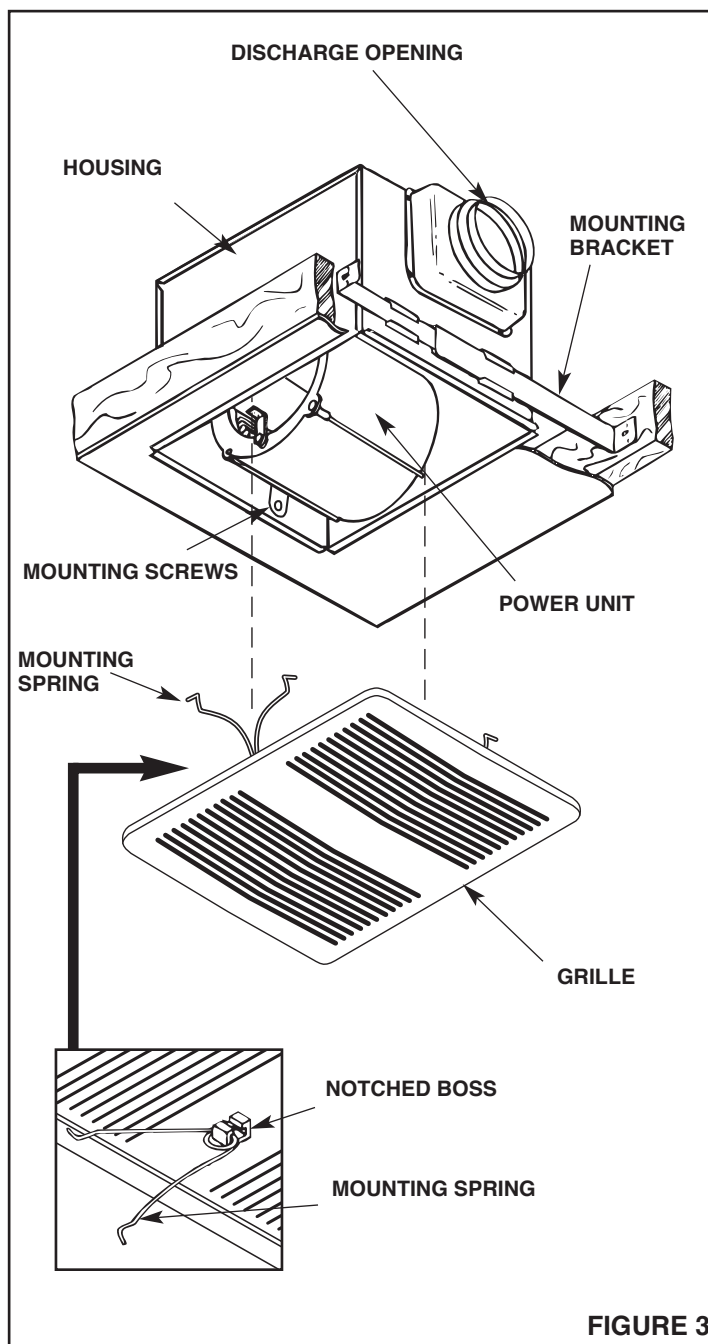

FIGURE 3
1. Refer to Figure 3. Insert mounting brackets at each end of housing.
4. Refer to Figure 3. Securely tighten screw.
1. Refer to Figure 3. Snap grille mounting springs' center loop into notched bosses on the back of grille.